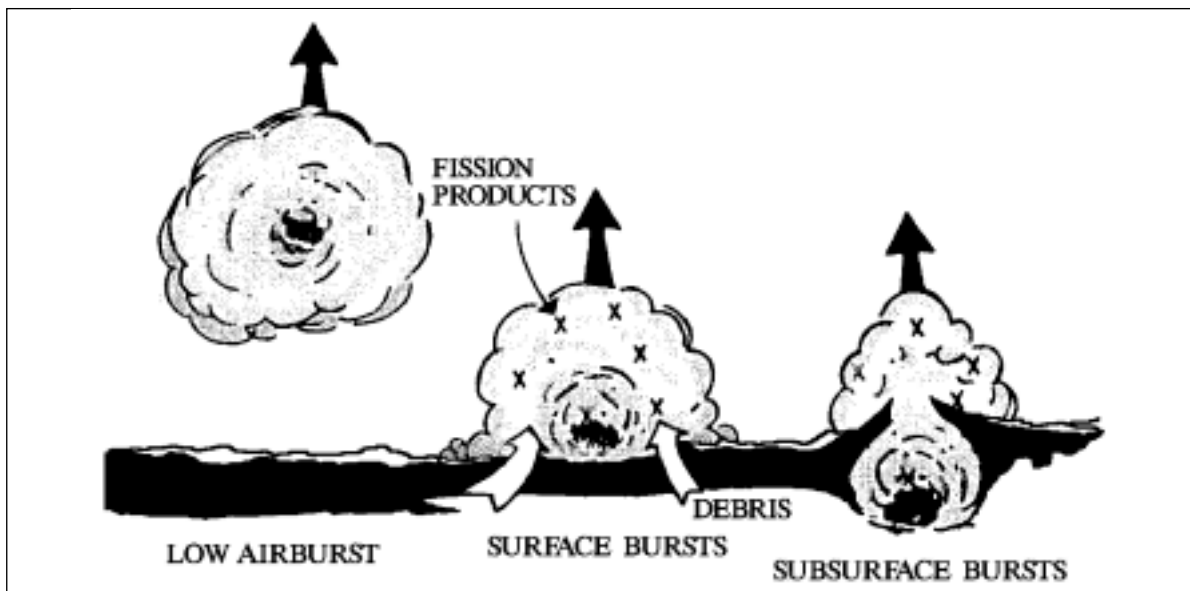

Fig 1-2. Types of bursts.
d. Mushroom cloud. **Nuclear detonations do have one characteristic that is not readily associated with conventional weapons--they usually produce a "mushroom" cloud.** Highly visible in daylight, this cloud gives you a clue about the type of the burst (fig 1-2).